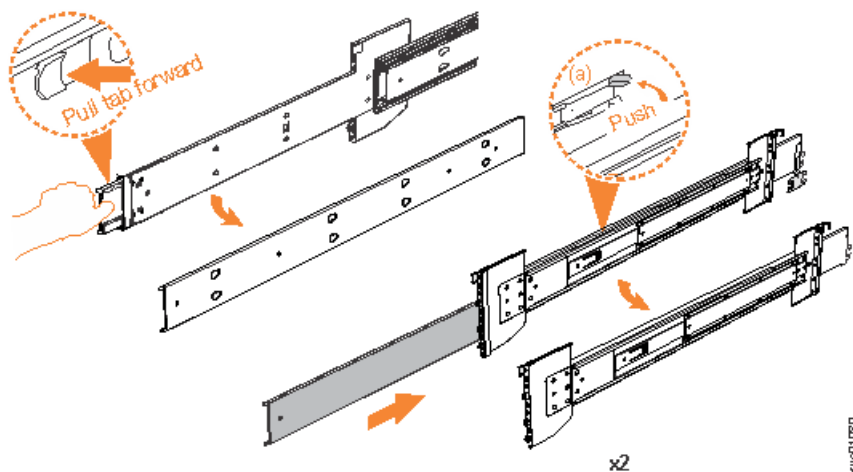

Figure 23. Detaching the inner rail section
3. Remove the inner member of the rail. Push the tab (a) and slide the middle rail member back, as shown in Figure 23 on page 46.